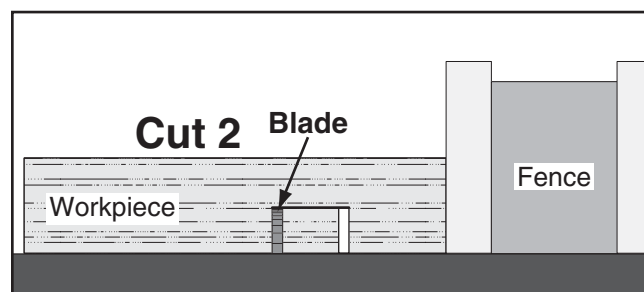

Figure 66. Second cut for a single blade dado.
8. Repeat the cutting operation on the other side of the dado channel, as shown in **Figure 66**.